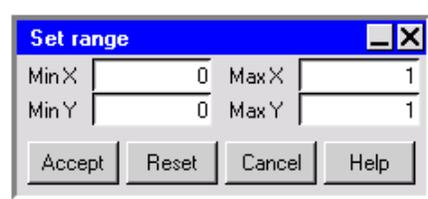

Figure 7.7.11: The Set range Panel
- To set the minimum and maximum values for the scales on the axes, click on **Set range**. This will open the **Set range** panel (Figure 7.7.11).